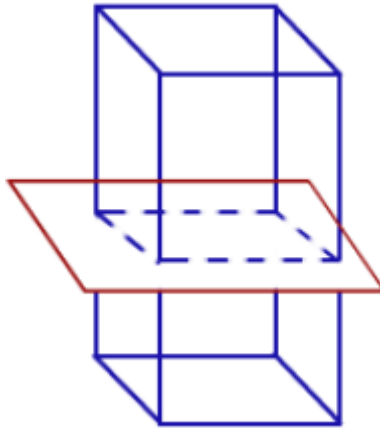

Fig.4.1
1. Section of solids obtained by horizontal planes as shown in Fig 4.1.